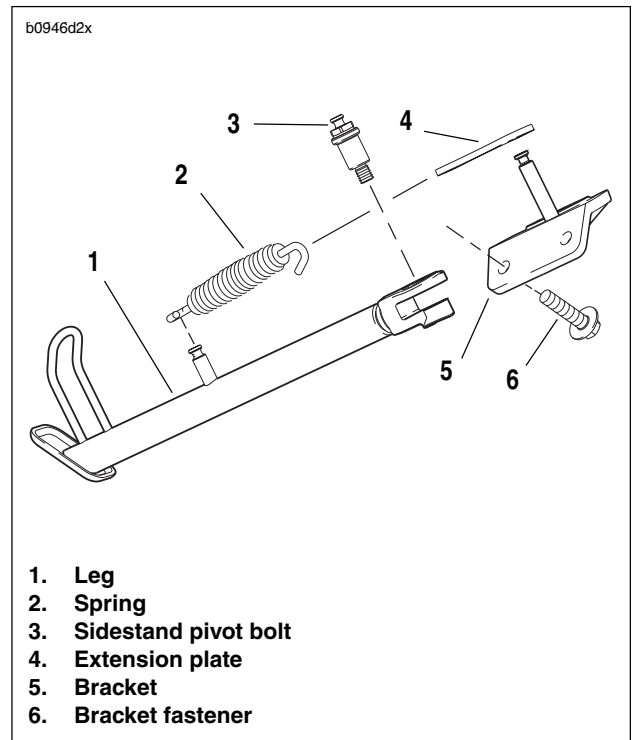

Figure 2-121. Sidestand Assembly
- c. See Figure 2-121. Install sidestand leg (1) and sidestand pivot bolt (3) tightening to 18-20 ft-lbs (24-27 Nm).
- e. Install spring extension plate (4) and sidestand spring (2) using SNAP-ON SPRING TOOL (Part No. HE-52B).